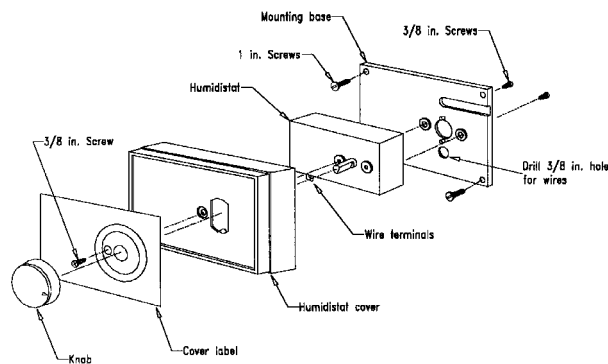

Figure 2 Wiring Diagram
- 2 For conversion to a wall mount configuration, simply pull the indicator knob off and remove the mounting screws, and rotate the control 180° and reattach the mounting base Fig 2.**